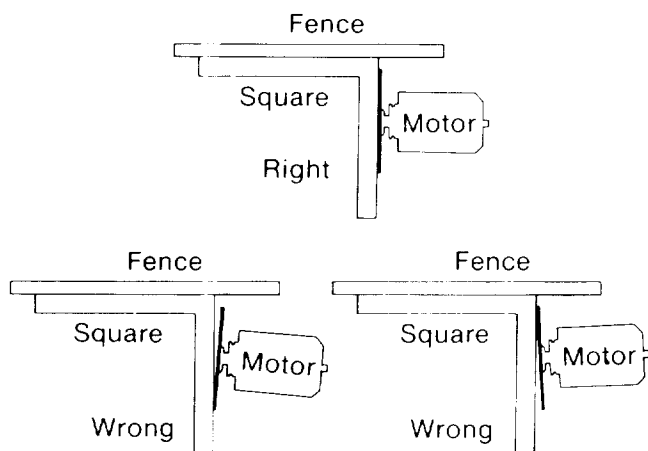

Fig. 65
5. If the square is flush with the *blade* after each rotation, no change is needed. (Figure 65) Go to the next section, **or**
If there is a gap between the square and the *blade* after any rotation, go to step 6. (Figure 65)